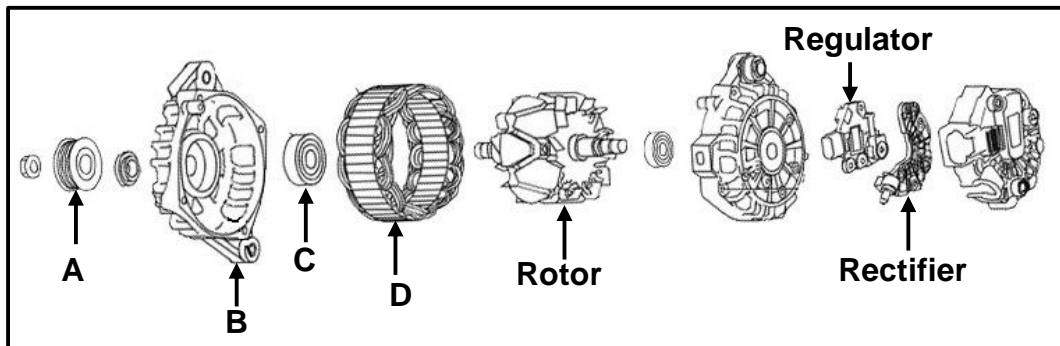

FIGURE 10.8
- 10.8 FIGURE 10.8 below shows an exploded view of an alternator. Answer the questions that follow.